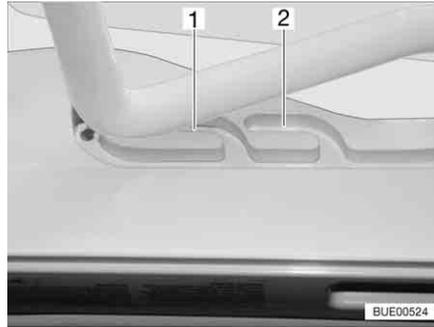
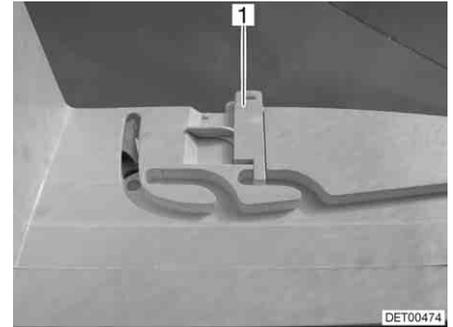

Fig. 82 Heki skylight in ventilation position
Fig. 83 Ventilation position locking mechanism
The Heki skylight can be put in two ventilation positions: Bad weather position (Fig. 82,1) and central position (Fig. 82,2). Depending on the model, the skylight can be locked in the central position with both left and right latches (Fig. 83,1) on the skylight frame.
- Push the bar slightly upwards and into the selected guide (Fig. 82,1 or 2) and lock if necessary.